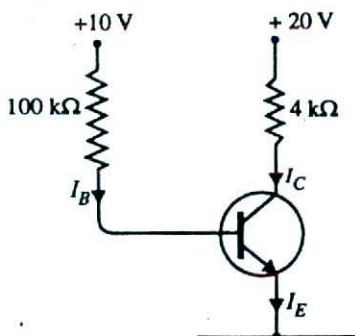

Fig. 11.32
2. Fig. 11.32 shows biasing with base resistor method. Determine the operating point. Assume the transistor to be of silicon and take $\beta = 100$. [$I_C = 0.93 \text{ mA}$, $V_{CE} = 17.3 \text{ V}$]